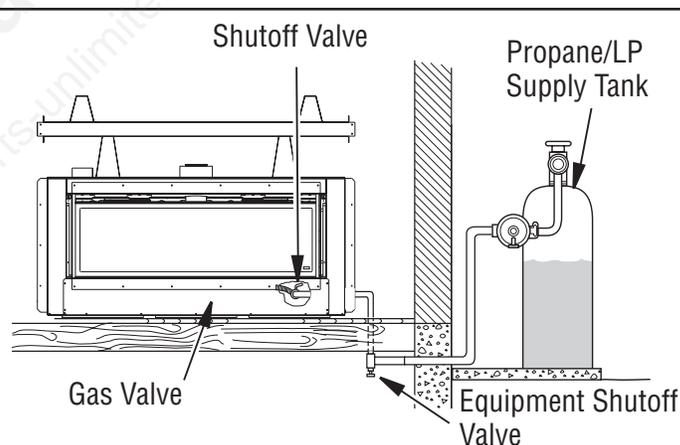

Figure 26 - Checking Gas Joints for Propane/LP Gas Fireplace
3. Check all joints from propane/LP supply tank or gas meter to equipment shutoff valve (see **Figures 26 or Figure 27**). Apply noncorrosive leak detection fluid to all joints. Bubbles forming show a leak.
5. Check all joints from equipment shutoff valve to gas valve (see **Figures 26 or Figure 27**). Apply noncorrosive leak detection fluid to all joints. Bubbles forming show a leak. Correct all leaks at once.